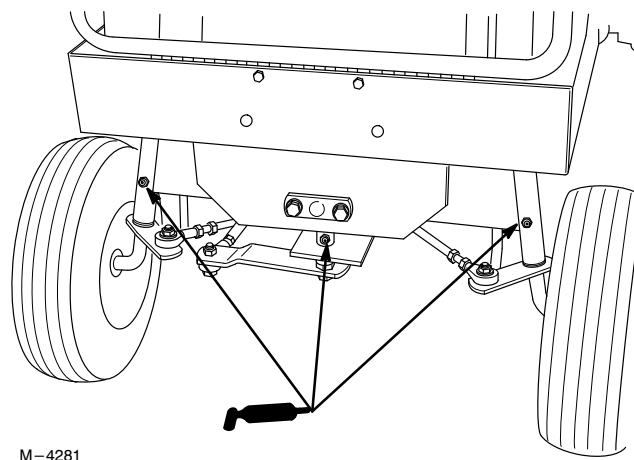

Figure 19
2. Lubricate spindles, steering shaft and pivot (Fig. 19).